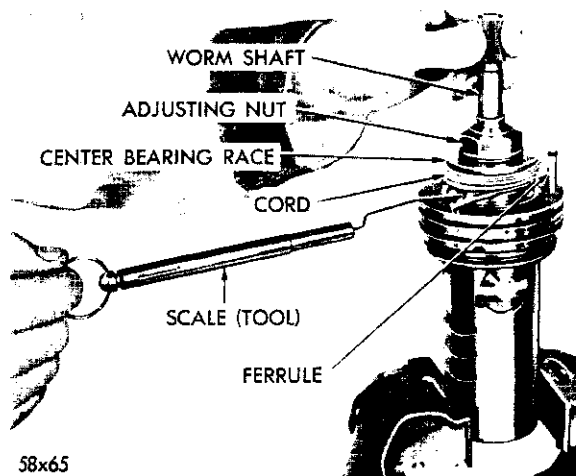

Fig. 48—Adjusting the Center Bearing Pack Preload
(5) Loosen the adjusting nut. Place several rounds of cord around the center bearing race (Fig. 48). Make a loop in one end of the cord and hook the loop of a distributor breaker arm spring scale Tool MTU-36 in the cord loop. Pulling the cord will cause the bearing race to rotate. Retighten the worm bearing adjusting nut while pulling on the cord with the scale. If the adjusting nut is tightened properly,